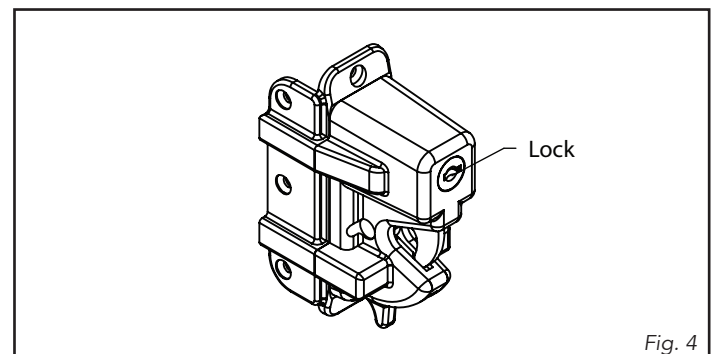

Fig. 4
4. After installation, TEST the locking and unlocking of the latch. **LOCK:** Turn key clockwise to stop point, then counter-clockwise to the horizontal position and remove. **UNLOCK:** Turn key counter-clockwise to stop point, then turn key clockwise to the horizontal position and remove (Fig. 4).